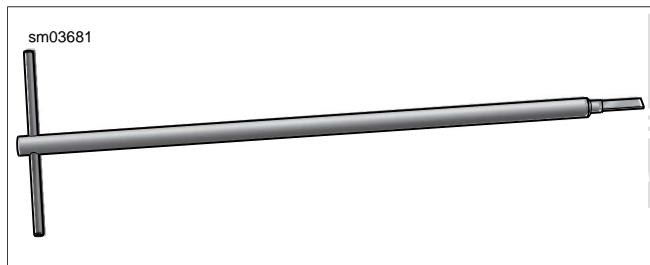

Figure 8-63. Ignition Switch Connector Remover (HD-45961)
- a. Obtain the IGNITION SWITCH CONNECTOR REMOVER (Part No. HD-45961). See Figure 8-63.